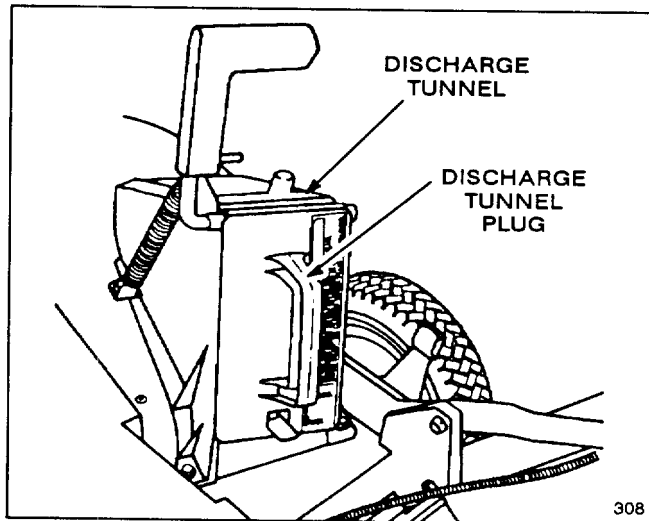

Figure 25
1. Rear Bagging Kit (Model 59174 for self-propelled models, Model 59179 for hand push models)—Install discharge tunnel and rear mounting grass bag to convert Recycler® mower to a rear bagging mower (Fig. 25). Includes discharge tunnel plug.